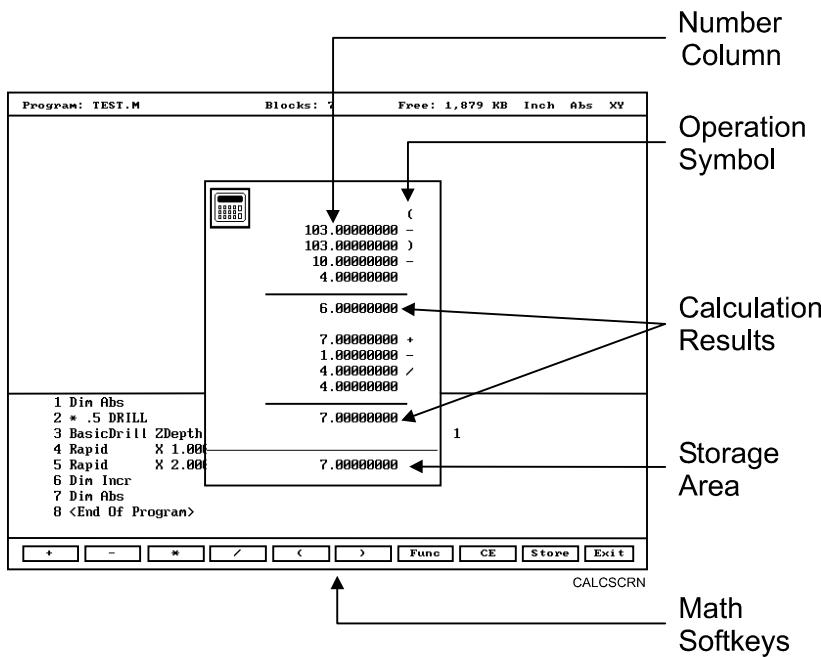

Figure 6-2, Math Calculator and Soft Keys
2. Highlight the **Math Calculator** template and press **ENTER** to display the math calculator pop-up window. Refer to **Figure 6-2**.